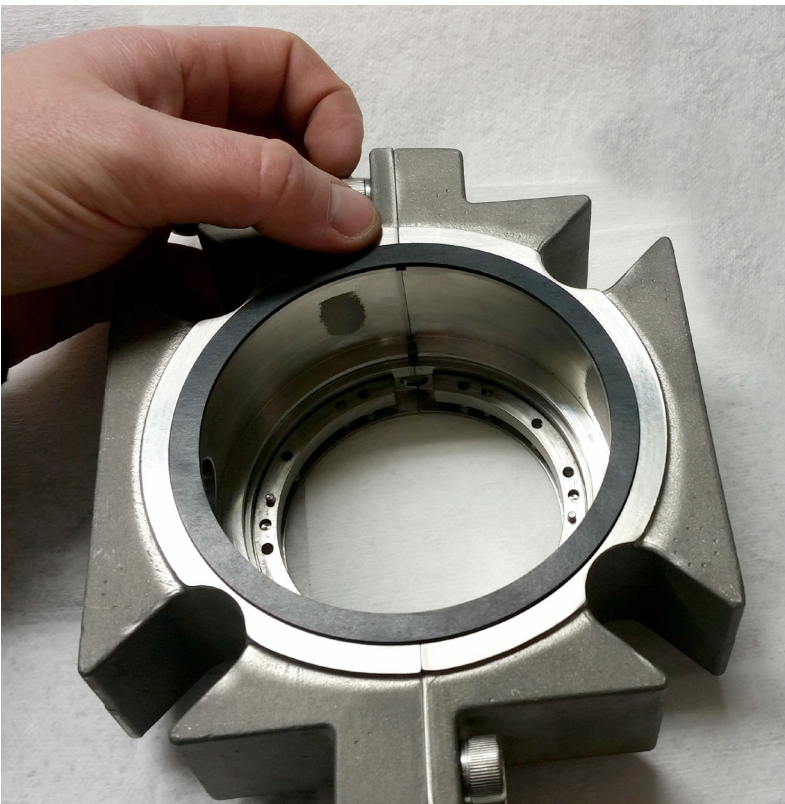

Figure 24
- 9.4 Center the gland gasket in the gasket groove and hold it in place with hand pressure for 10 seconds until the adhesive sets. On larger sizes use a flat plate to ensure firm equal pressure around the entire circumference. See Figure 24.